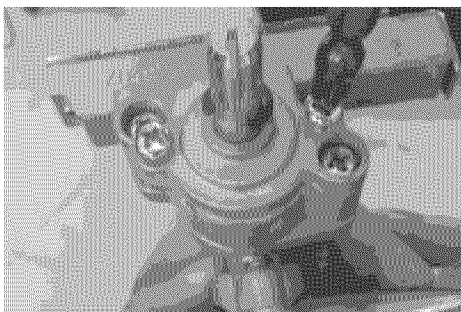
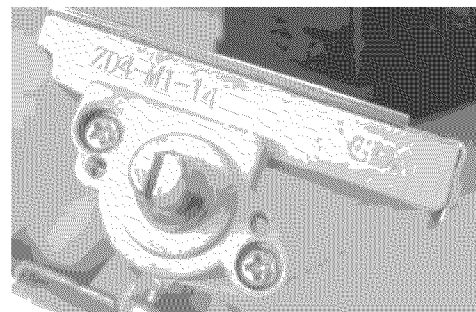

Fig. 11e
Fig. 11f
5. Unscrew the two screws at side of valve stem as shown in **Fig. 11e** and **Fig. 11f**. Take care not to remove the other two screws, or the valve will come apart.